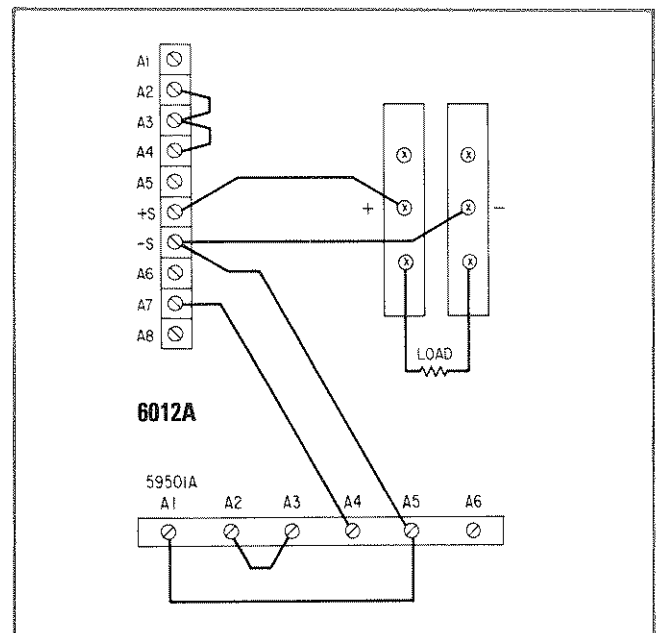

**Figure 2.** Connecting the 59501A as a Low Level Voltage Source.
- Wire load to 59501A as illustrated in Figure 2.